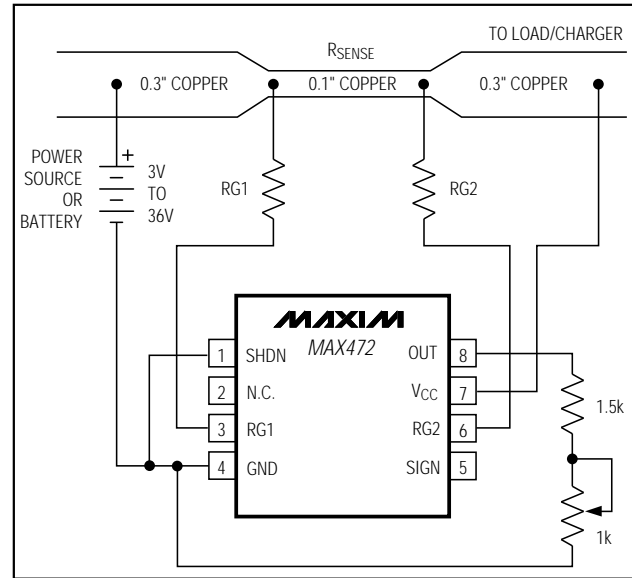

Figure 6. MAX472 Connections Showing Use of PC Board Trace
- Cost:** If the cost of  $R_{SENSE}$  becomes an issue, you may want to use an alternative solution, as shown in Figure 6. This solution uses the PC board traces to create a sense resistor. Because of the inaccuracies of the copper "resistor," you will need to adjust the full-scale current value with a potentiometer. Also, the resistance temperature coefficient of copper is fairly high (approximately 0.4%/°C), so systems that experience a wide temperature variance should take this into account.
In Figure 6, assume the load current to be measured is 10A and that you have determined a 0.3 inch wide, 2 ounce copper to be appropriate. The resistivity of 0.1 inch wide, 2 ounce copper is 30mΩ/ft (see Note 4). For 10A you may want RSENSE = 5mΩ for a 50mV drop at full scale. This resistor will require about 2 inches of 0.1 inch wide copper trace.